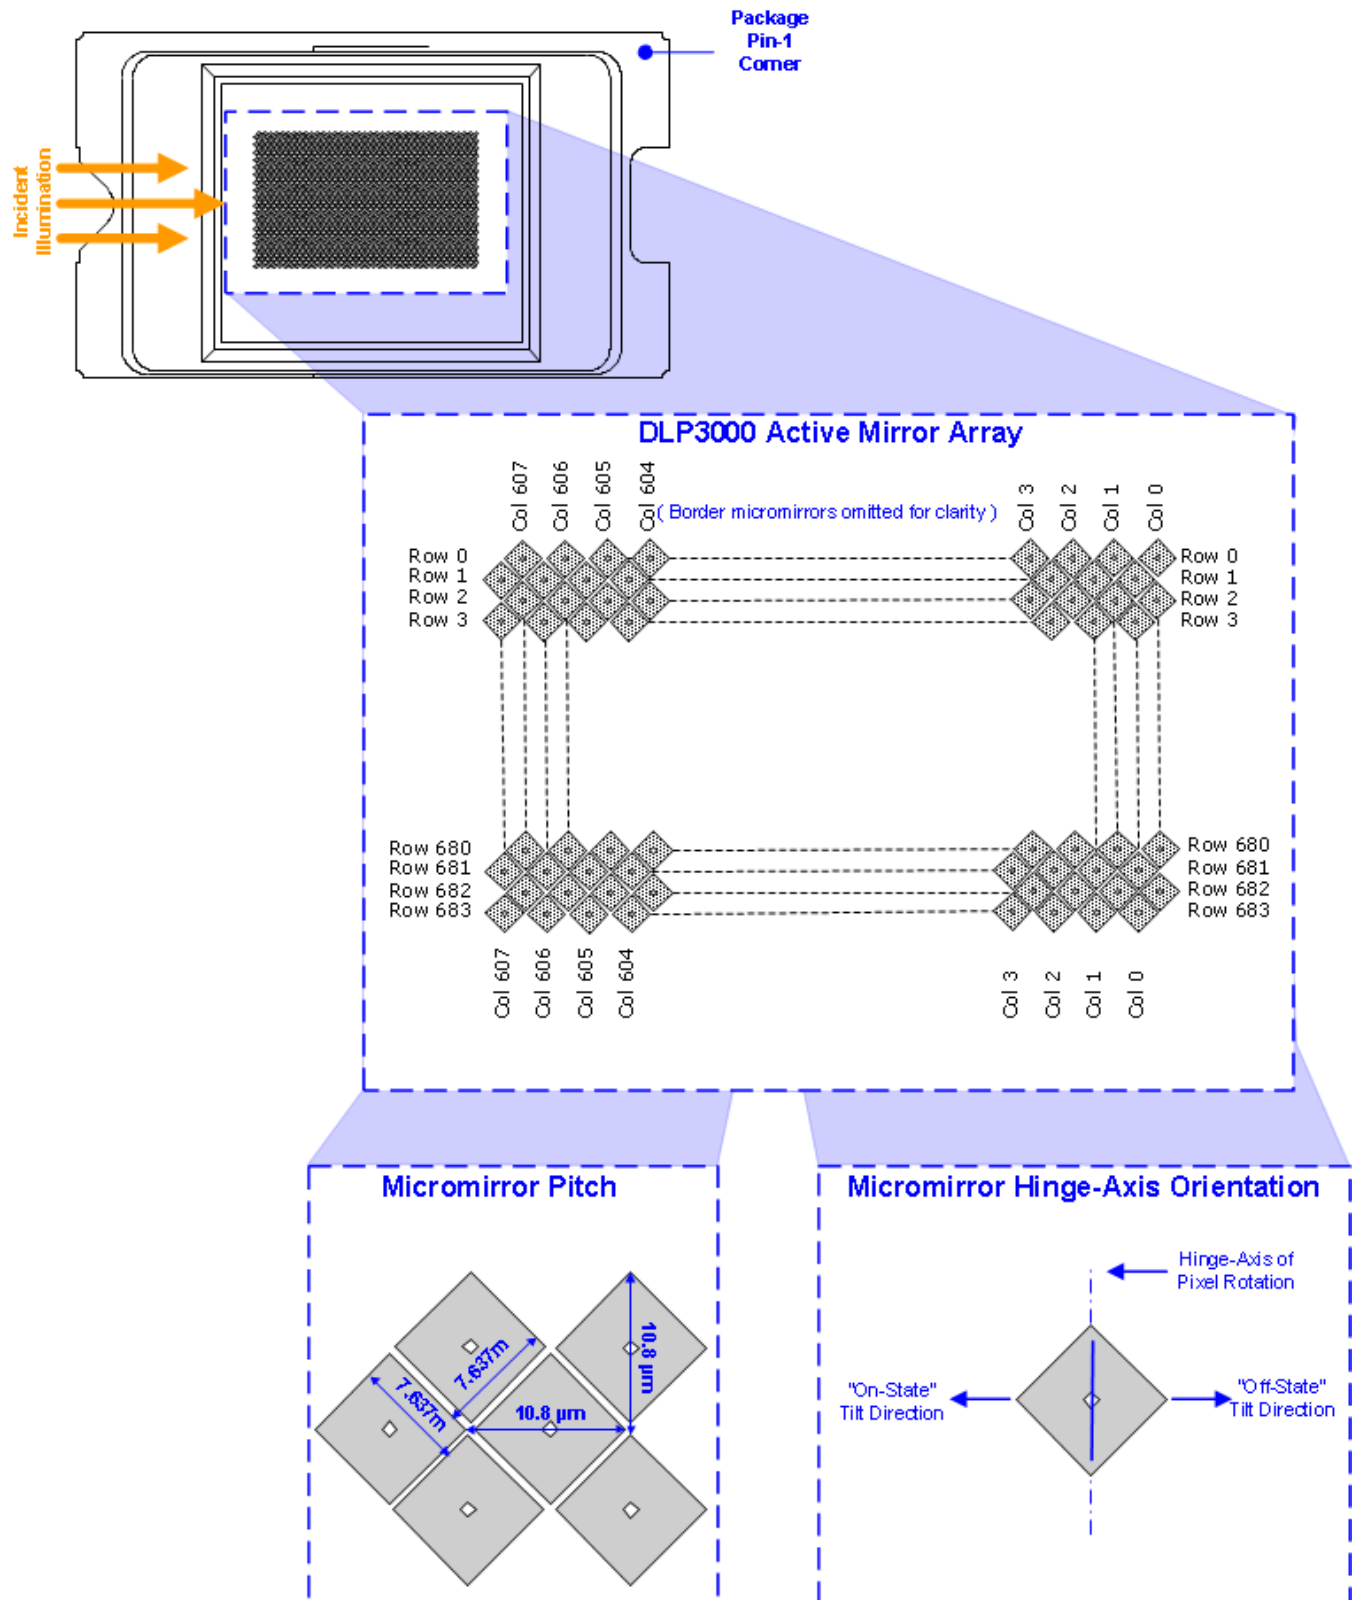
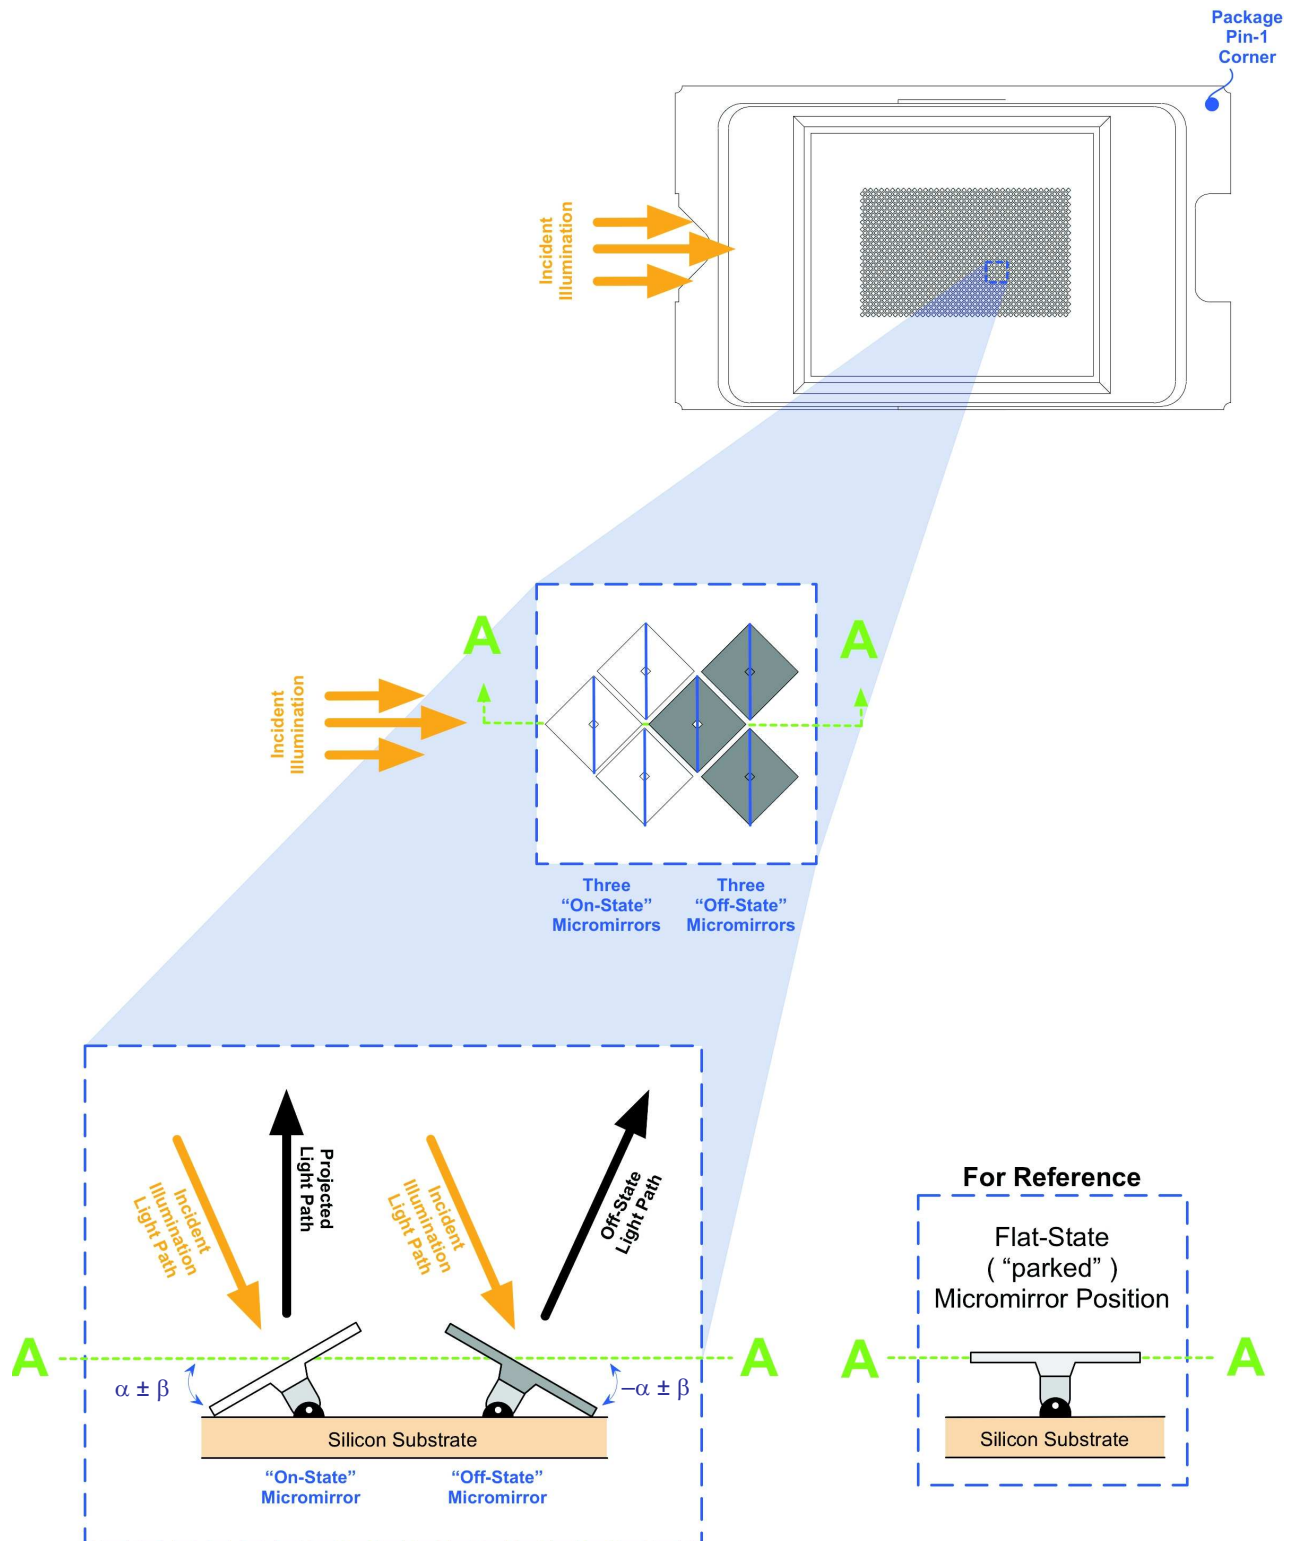

Figure 9. Micromirror Array, Pitch, and Hinge-Axis Orientation
Figure 10. Micromirror Landed Positions and Light Paths
- (4) The mirrors that form the array border are hard-wired to tilt in the -12° (off) direction once power is applied to the DMD (see Figure 9 and Figure 10).
The DLP3000 is a 0.3 inch diagonal spatial light modulator which consists of an array of highly reflective aluminum micromirrors. Pixel array size and diamond grid pixel arrangement are shown in Figure 9. The DMD is an electrical input, optical output micro-electrical-mechanical system (MEMS). The electrical interface is Double Data Rate (DDR) input data bus.
Optically, the DLP3000 consists of 415872 highly-reflective, digitally-switchable, micrometer-sized mirrors (micromirrors) organized in a 2-D array. The micromirror array consists of 608 micromirror columns by 684 micromirror rows in diamond pixel configuration (Figure 9). Due to the diamond pixel configuration, the columns of each odd row are offset by half a pixel from the columns of the even row.
Each aluminum micromirror is approximately 7.6 microns in size (see *Micromirror Pitch* in Figure 9) and is switchable between two discrete angular positions: -12° and $+12^\circ$. The angular positions are measured relative to a 0° flat reference when the mirrors are parked in their inactive state, parallel to the array plane (see Figure 10). The tilt direction is perpendicular to the hinge-axis. The on-state landed position is directed toward the left side of the package (see *DLP3000 Active Mirror Array*, *Micromirror Pitch*, and *Micromirror Hinge-Axis Orientation* in Figure 9).